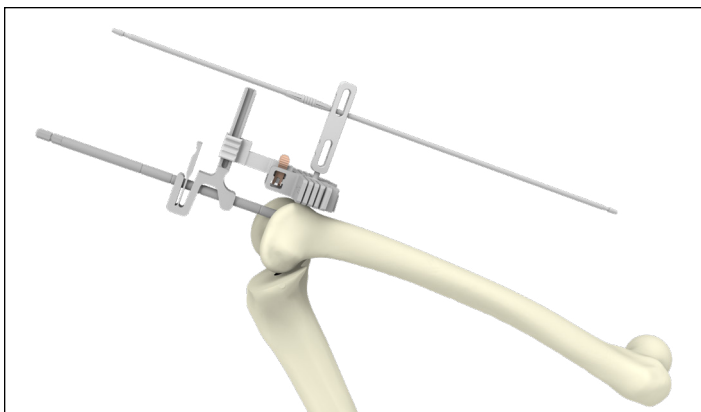

Figure 67
- ▶ **Attention:** If revising a femoral component, verify flexion angle of the distal femoral cut. Attach the universal alignment handle to Hinge distal femoral resection guide and insert the alignment rod. If the flexion angle of the distal femoral cut is not desirable, additional resection may be required from the distal femur to adjust the flexion angle (**Figure 67**).